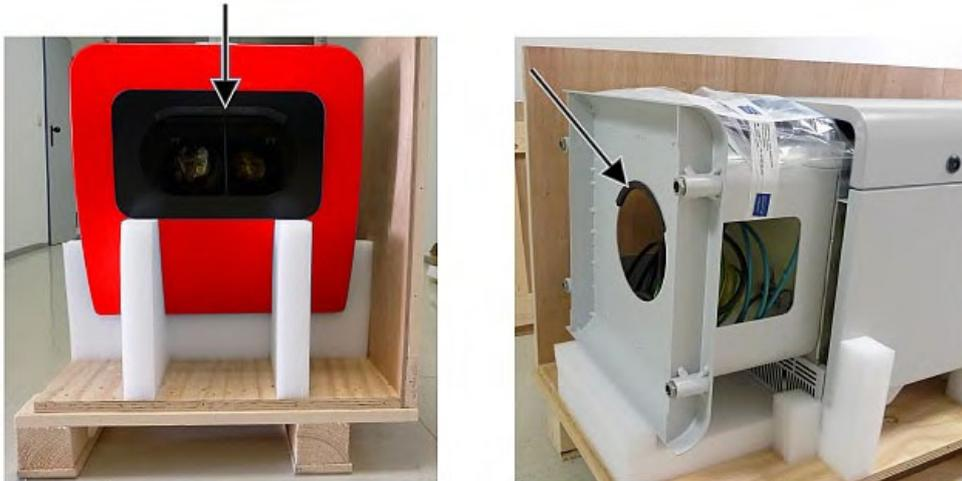

Figure 8 Lifting positions and handle protection (edge protection profile).
- ⇒ Carefully lift the CHM 8k out of the polystyrene packaging or paper honeycomb packaging by hand, observing all safety regulations. (Lifting positions: Figure 8).
- ⇒ To carry: Grasp the equipment in the openings marked with arrows (Figure 8).